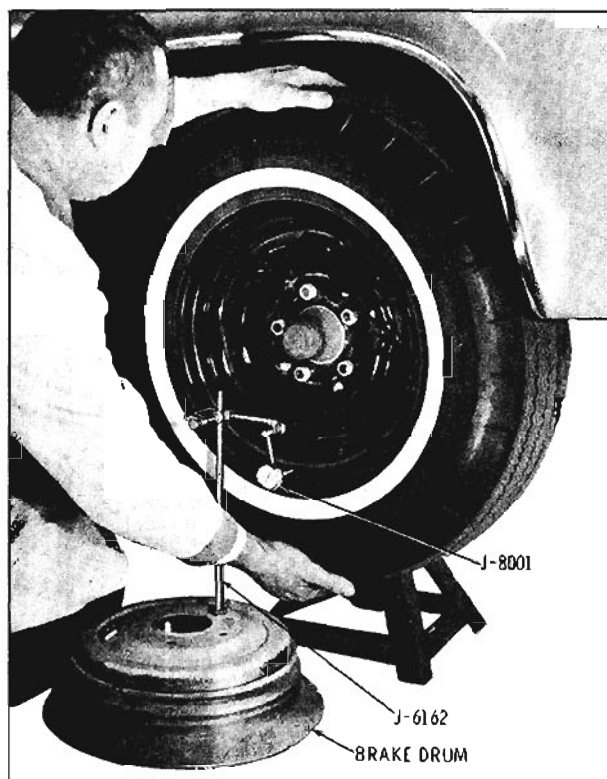

Fig. 9-12 Ball Joint Horizontal Check
2. Position dial indicator as shown in Fig. 9-12.
3. Grasp front wheel as shown in Fig. 9-12 and push in on bottom of tire while pulling out at